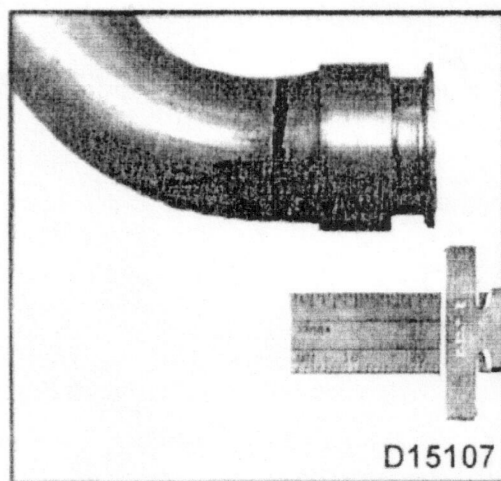

Figure 1 Marked turbo oil drain tube
1. Measure and mark the turbo oil drain tube 21.8mm (0.9 inches) from the pump cover end of the tube (Figure 1). This mark indicates where to stop inserting the tube into the pump cover.